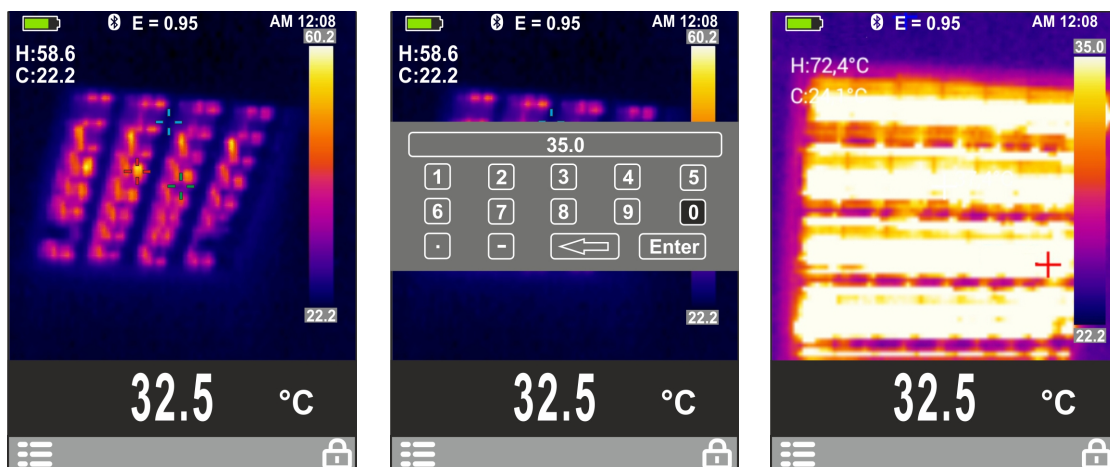

Fig. 21: Image display in Manual mode
1. Press key **ESC**/ to activate Manual mode. The temperature values stay fixed within a frame with grey background and symbol  appears on the display (see Fig.21 – left side).
2. Press key **▲** to set the higher temperature value. The following screen (see Fig.21 – middle) appears on the display.
4. Select virtual key **←** to delete the value, press key **T** to define each value and select the virtual key **Enter** to confirm the value (e.g.: 35.0°C in Fig. 21 – middle) and quit setting section.
6. The display of the object in Manual mode is shown in Fig. 21 – right side.